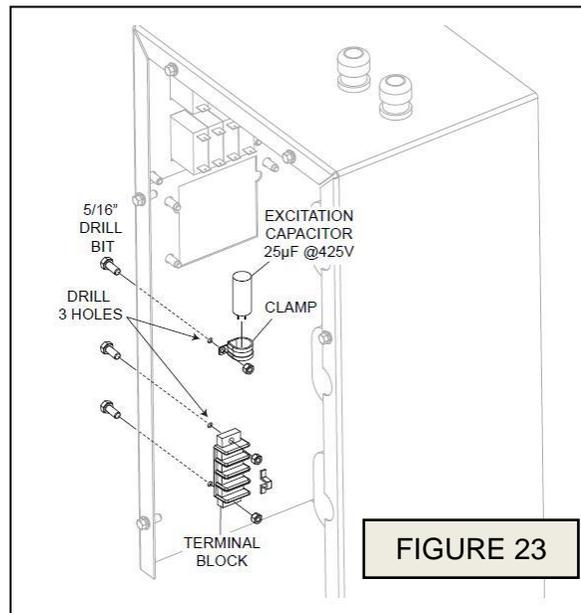

FIGURE 23
- Drill 3 holes (use 5/16" and xxxx drill bits) in the ballast box for mounting of new excitation capacitor (25μF @425V) and terminal block. See FIGURE 23.